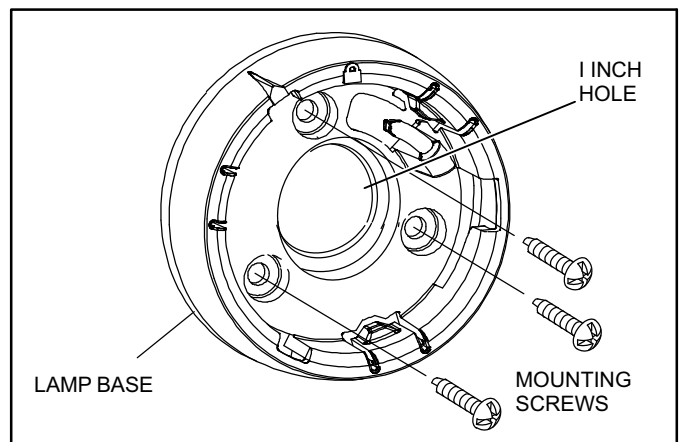

**Figure 6. Install the Shielding Baffle**
2. **Skip this step if no shielding baffle is required.** When using a shielding baffle (Y5171), it must be installed in the 1" hole prior to continuing this procedure. See the procedure described in figure 6.
Install the lamp shielding baffle when installing light above a non-UVC resistant component, such as a filter. Adjust the baffle to ensure the component is not subject to direct UVC light. Install the shielding baffle (ordered separately) as shown in figure 6.
Shielding baffle has been installed to protect filter or other non-UVC resistant components (see figure 6).